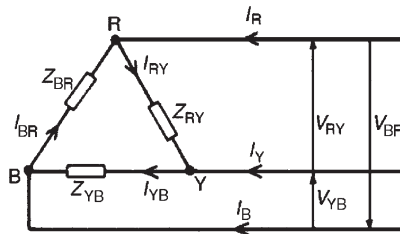
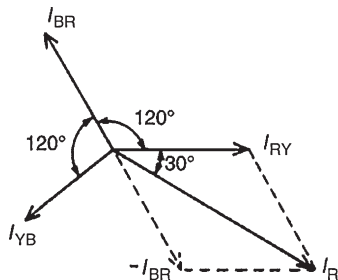

Figure 20.10
Figure 20.11
- (i) A **delta (or mesh) connected load** is shown in Fig. 20.10, where the end of one load is connected to the start of the next load.
- (ii) From Fig. 20.10, it can be seen that the line voltages V_{RY} , V_{YB} and V_{BR} are the respective phase voltages, i.e. for a delta connection:
- (iii) Using Kirchhoff's current law in Fig. 20.10, $I_R = I_{RY} - I_{BR} = I_{RY} + (-I_{BR})$. From the phasor diagram shown in Fig. 20.11, by trigonometry or by measurement, $I_R = \sqrt{3} I_{RY}$, i.e. for a delta connection: